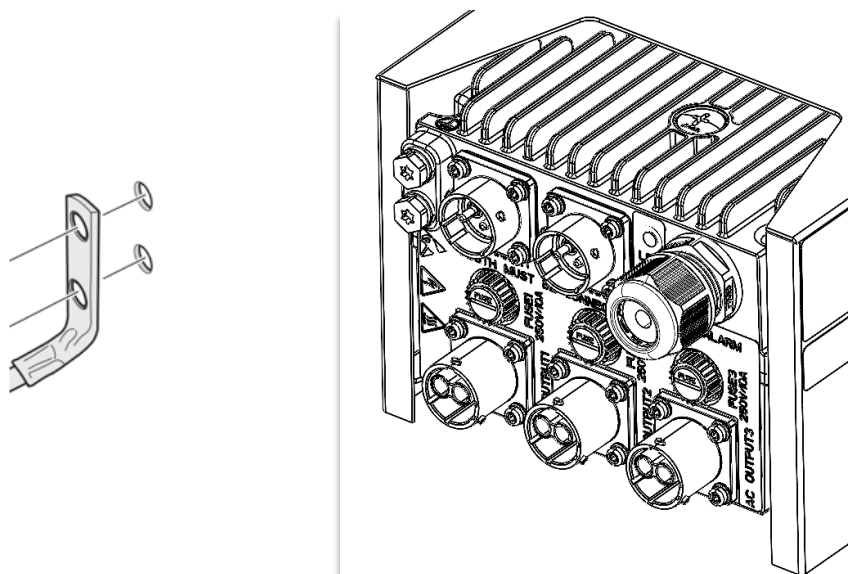

Figure 4 - Ground Wire Attachment
- 421 Locate grounding point as seen in Figure 4